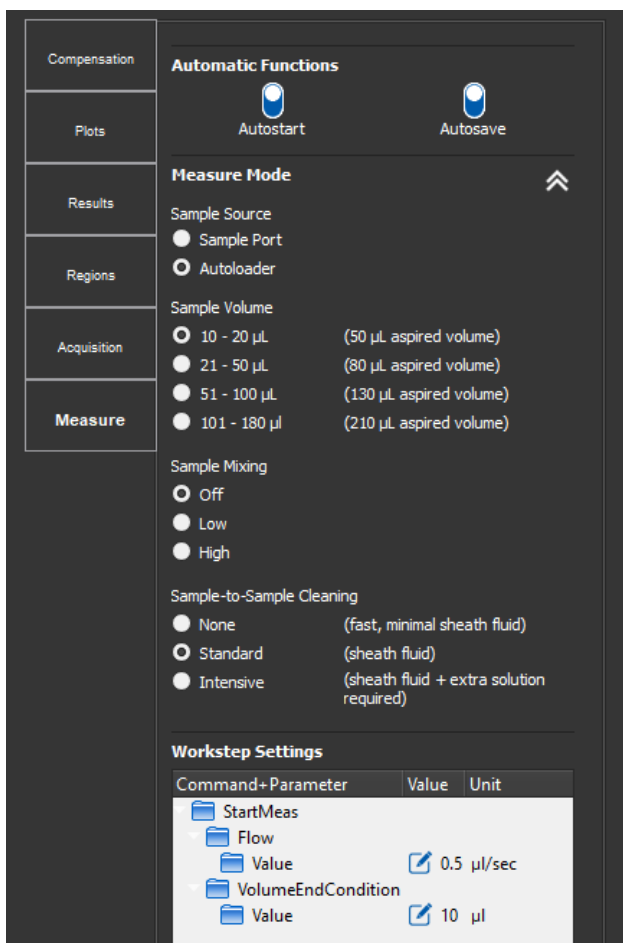

Figure 19. Cube 6 settings for measurement
4. Under **Settings**  → **Measure**, check that the parameters are set as shown in Figure 19.